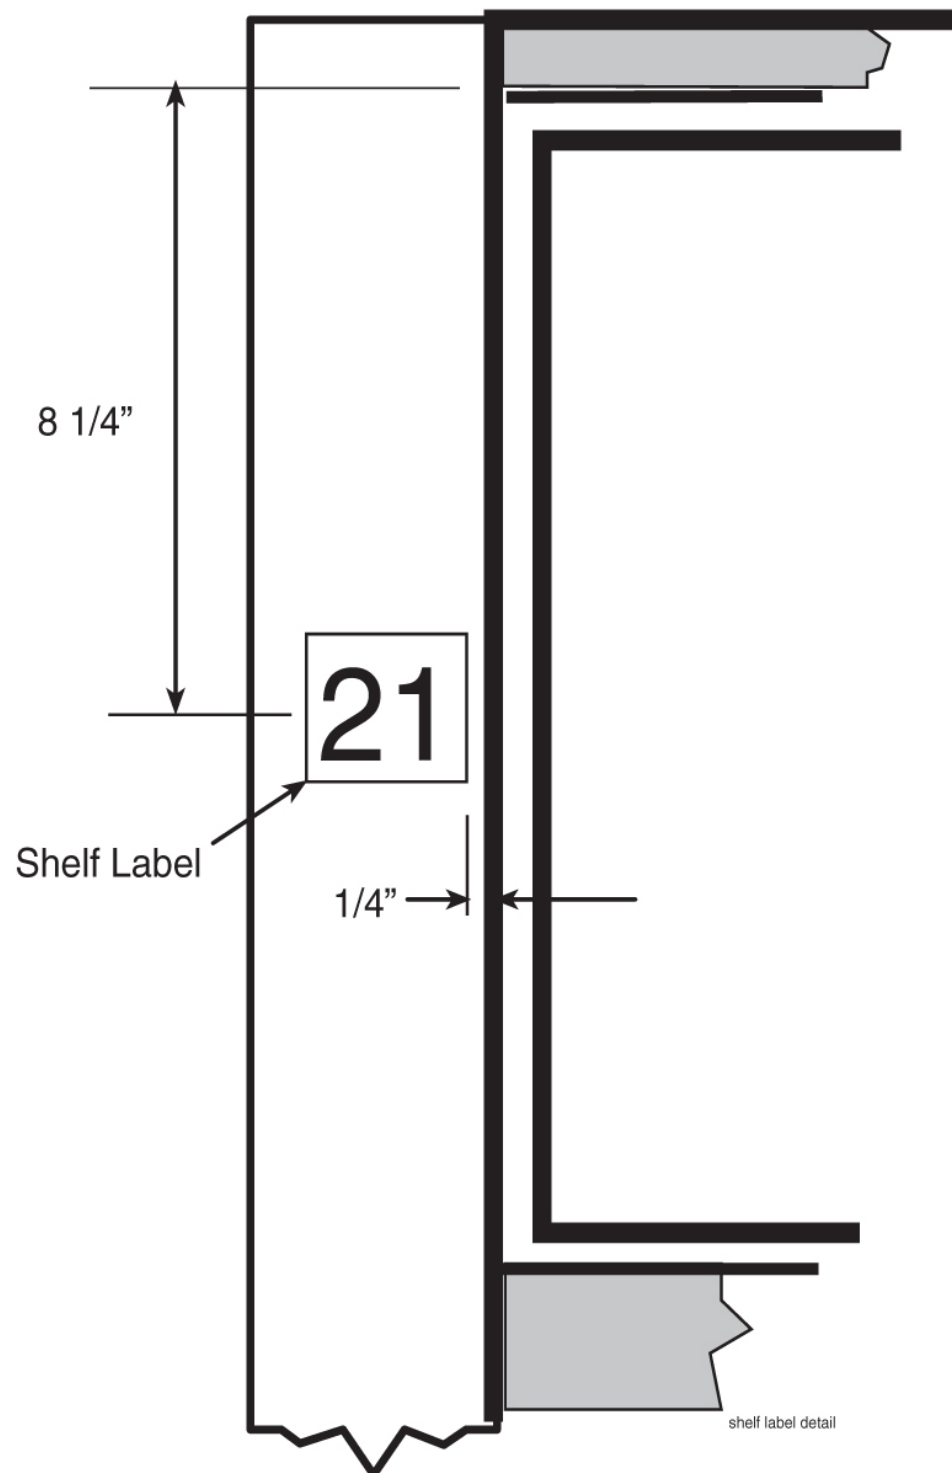

Figure 34: Shelf Label Location - Detail
Apply shelf labels to the frames of the system as shown in Frame Labeling. Refer to Figure 34: Shelf Label Location - Detail for exact placement. Refer to Table 8: Shelf Labels and Part Numbers for the proper label for each shelf.
2. Firmly press the label into place as shown in Frame Labeling and Figure 34: Shelf Label Location - Detail.